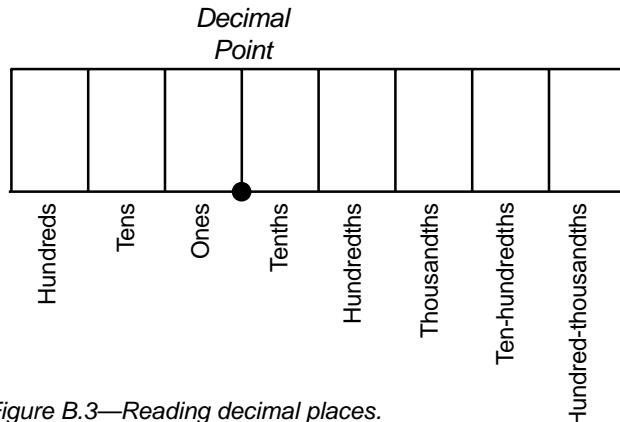

Figure B.3—Reading decimal places.
B.7 Using Decimals Reading a decimal type number depends on where the decimal point is placed. See figure B.3. This chart is similar to the chart for large numbers.